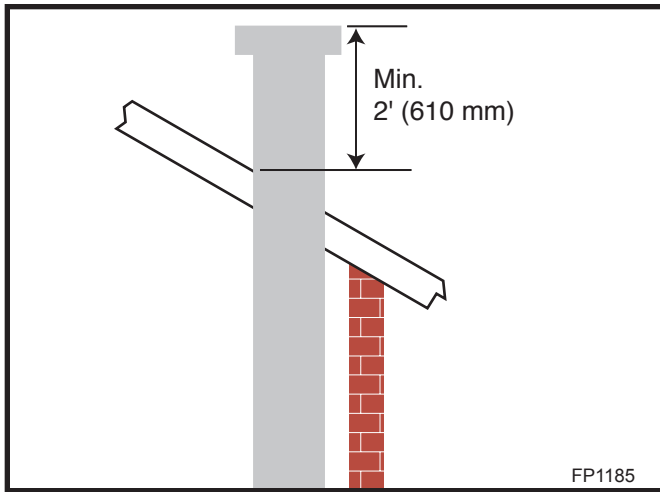

Fig. 43 Minimum termination to roof clearance.
- The minimum height of the vent above the highest point of penetration through the roof is 2' (610 mm). (Fig. 43) Refer to note 2, Page 14.